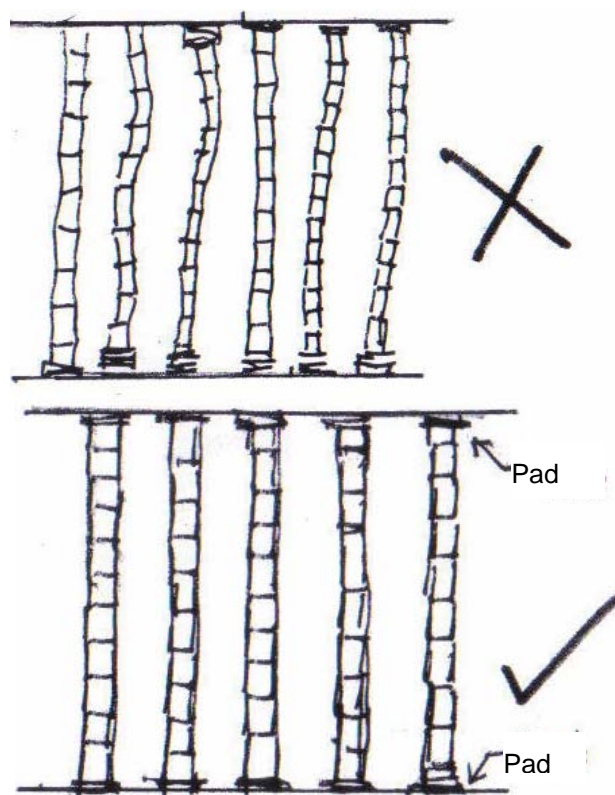

Fig 5 - **Bamboo props**
- Made sure that sizes (diameters and heights) of bamboo props (if used) are consistent and avoided use of mixed sizes (See fig. 5)